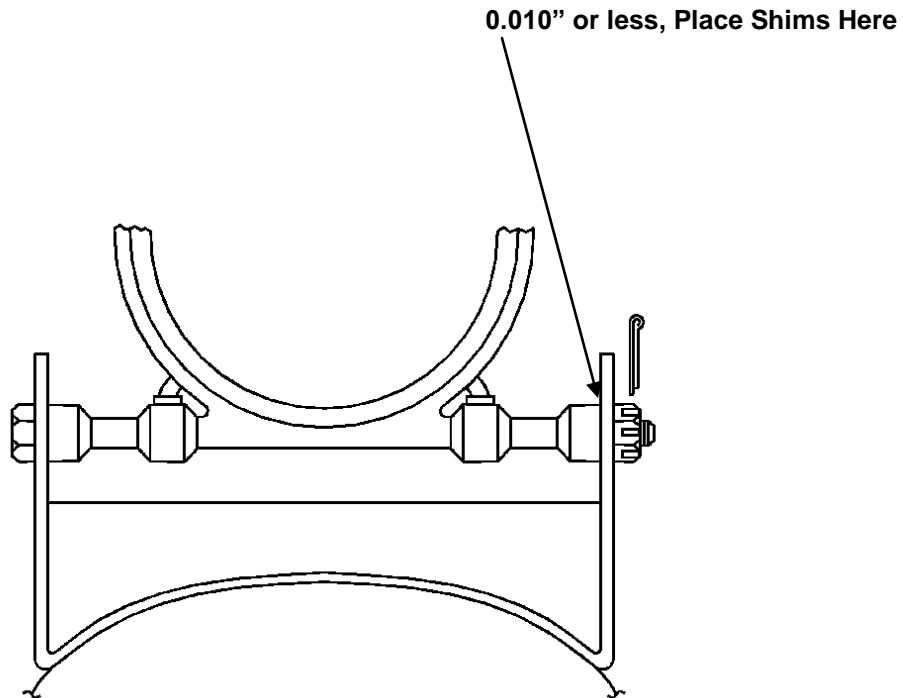

Figure 2, Shim Placement .010 or less
4. If the measured gap is 0.010 in. or less, peel the shim to the same thickness as the measured gap within 0.002 in. and put it between the bearing hanger and the bearing support on the nut side of the bearing support. Measured gap of 0.002 in. or less does not require a shim (Figure 2).